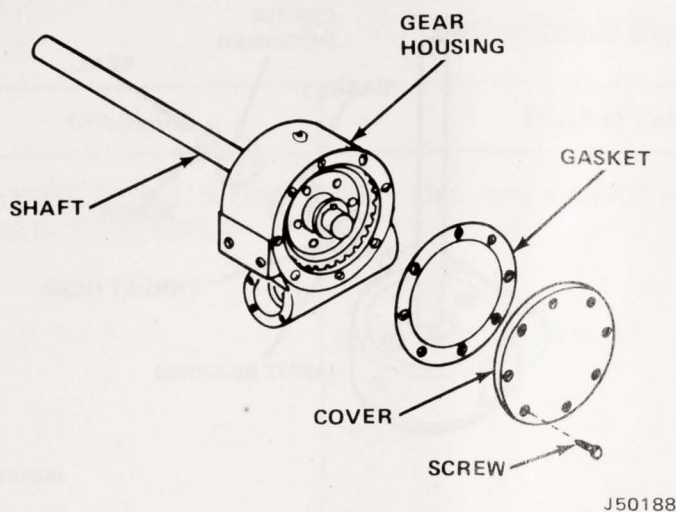

Fig. 5-24 Gear Cover and Housing
(10) Insert drum shaft with gear through housing (fig. 5-24).
(11) Mount gasket onto cover and position cover on housing: